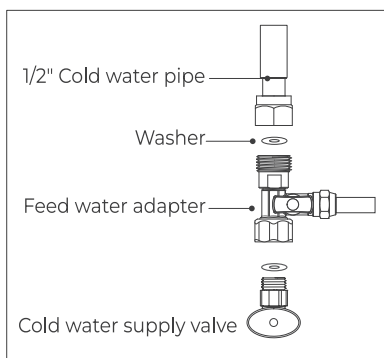

Figure 5
**3.** Twist the feed water adapter onto the cold water supply valve (with its washer) and tighten it with an adjustable wrench(**Figure 5**).